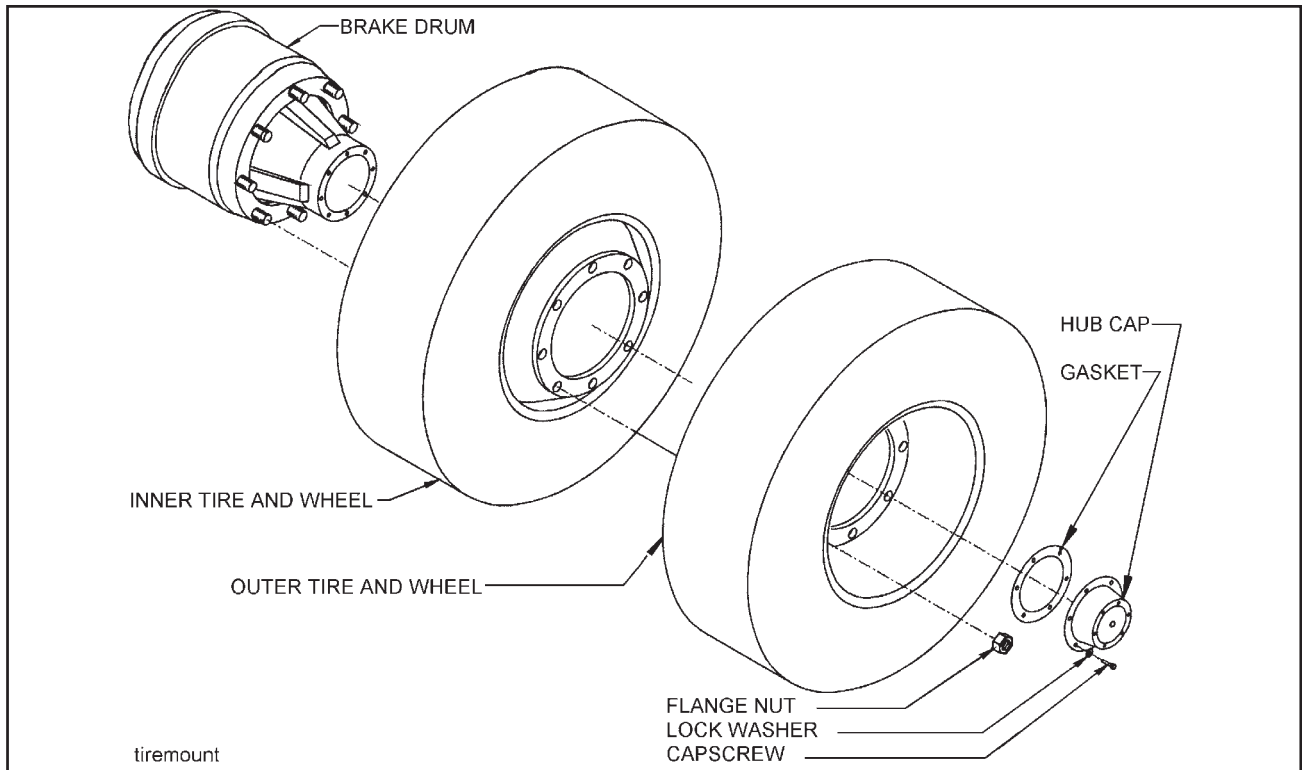

Figure 4-19 Mounting Tires and Wheels
- a. Make sure that all mounting surfaces are clean and free of rust, dirt or paint. A wire brush may be used to clean these surfaces (See Figure 4-19).